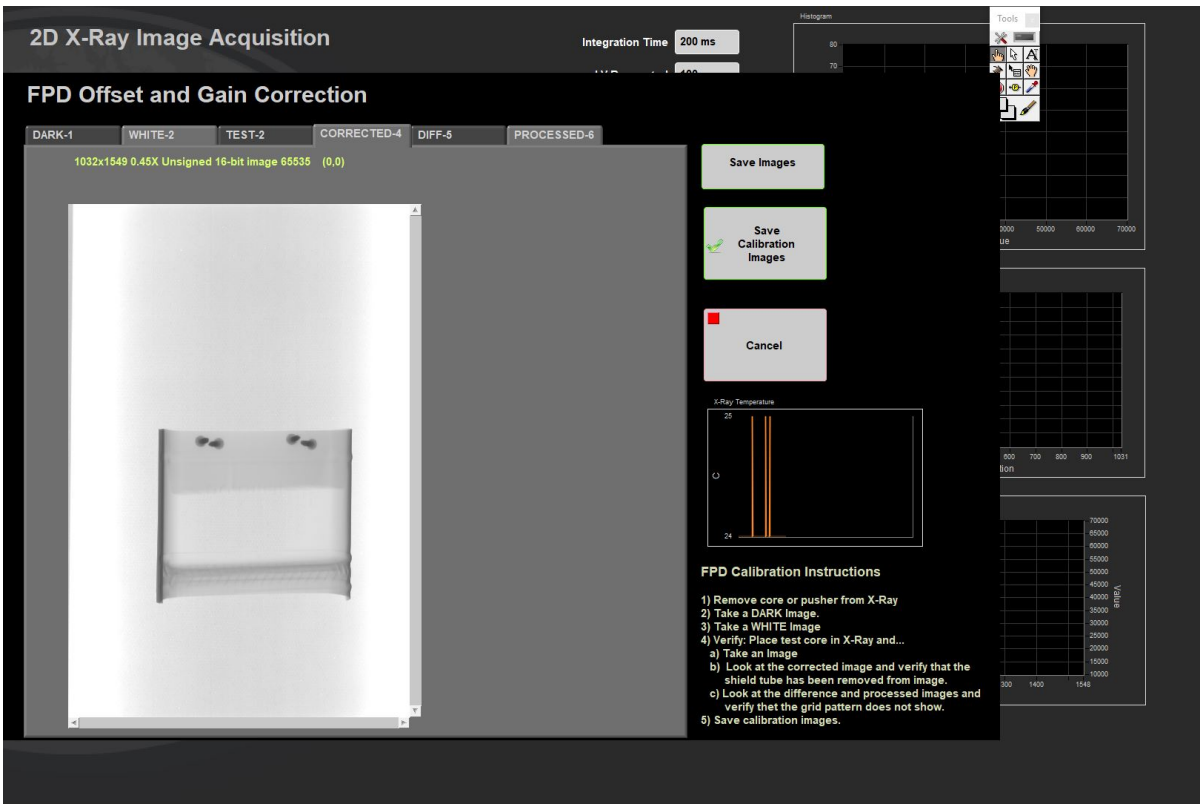

Figure 27- Corrected Image Tab
4. Select tab CORRECTED-4 (Figure 27).